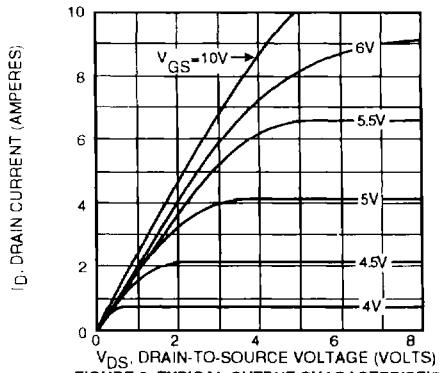

**FIGURE 1, MAXIMUM EFFECTIVE TRANSIENT THERMAL IMPEDANCE, JUNCTION-TO-CASE vs PULSE DURATION**
- ① Repetitive Rating: Pulse width limited by maximum junction temperature. See Transient Thermal Impedance Curve. (Fig.1)
- ② Pulse Test: Pulse width < 380  $\mu s$ . Duty Cycle < 2%
- ③ See MIL-STD-750 Method 3471